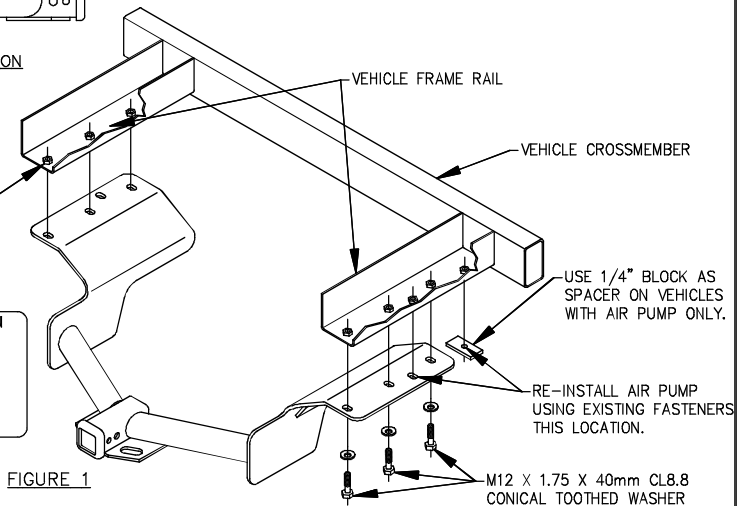

FIGURE 1
- RAISE HITCH INTO POSITION AS SHOWN IN FIGURE 1.
- INSTALL M12 BOLTS AND 1/2" CONICAL TOOTHED WASHERS AS SHOWN IN FIGURE 1.
- REINSTALL AIR PUMP USING EXISTING BOLTS AS SHOWN IN FIG. 1. BE SURE TO PLACE 1/4" BLOCK BETWEEN PUMP AND FRAME RAIL AT FORWARD ATTACHMENT AS SHOWN.